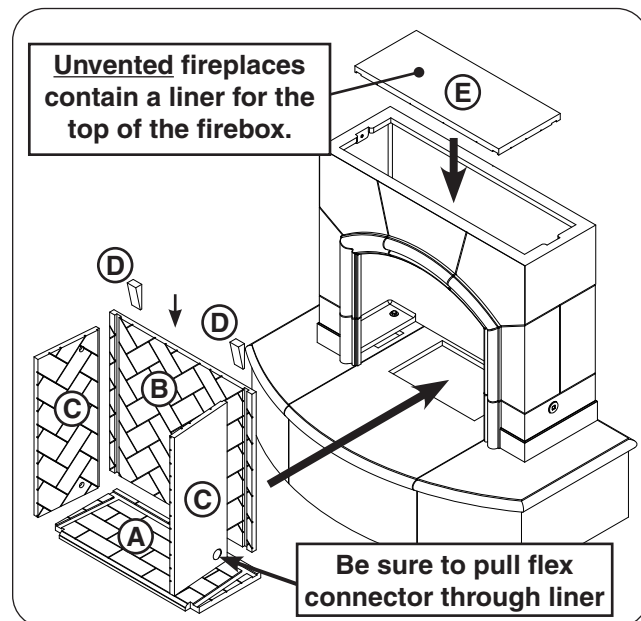

Fig. 26-3 Install firebox liners
1. Install the firebox liners into the interior of the firebox in the order shown in Fig. 26-3: